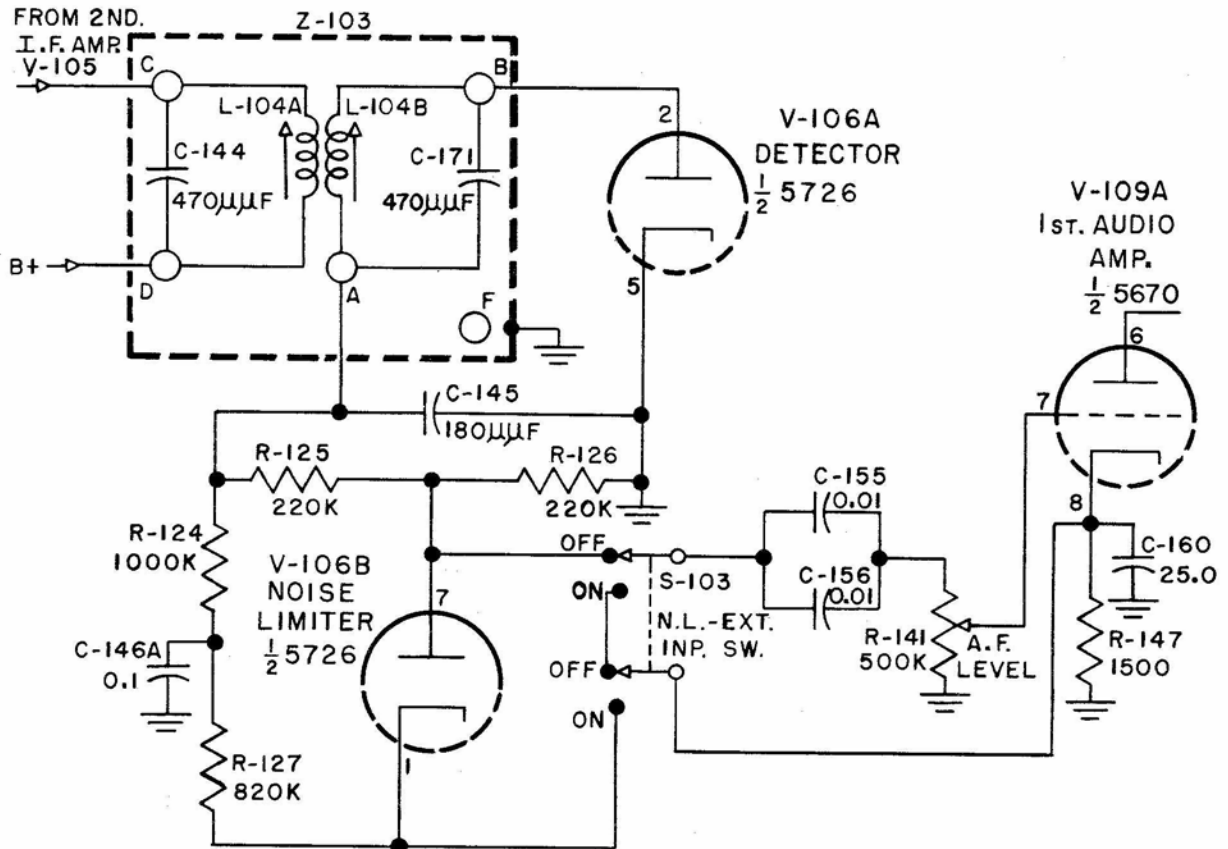

Figure 2-6. Detector V-106A and Noise Limiter V-106B, Simplified Schematic Diagram
f. DETECTOR V-106A AND NOISE LIMITER V-106B CIRCUIT DETAILS. (See Figure 2-6.)—Detector input transformer Z-103 and V-106A, one half of a type 5726 duo-diode, comprise a conventional diode second detector for the receiver. Transformer Z-103 is tuned to the intermediate frequency of 455 kilocycles by capacitor C-144 in parallel with the primary winding and C-171 in parallel with the secondary, the resonant frequency of the two circuits being adjustable by means of variable iron cores.